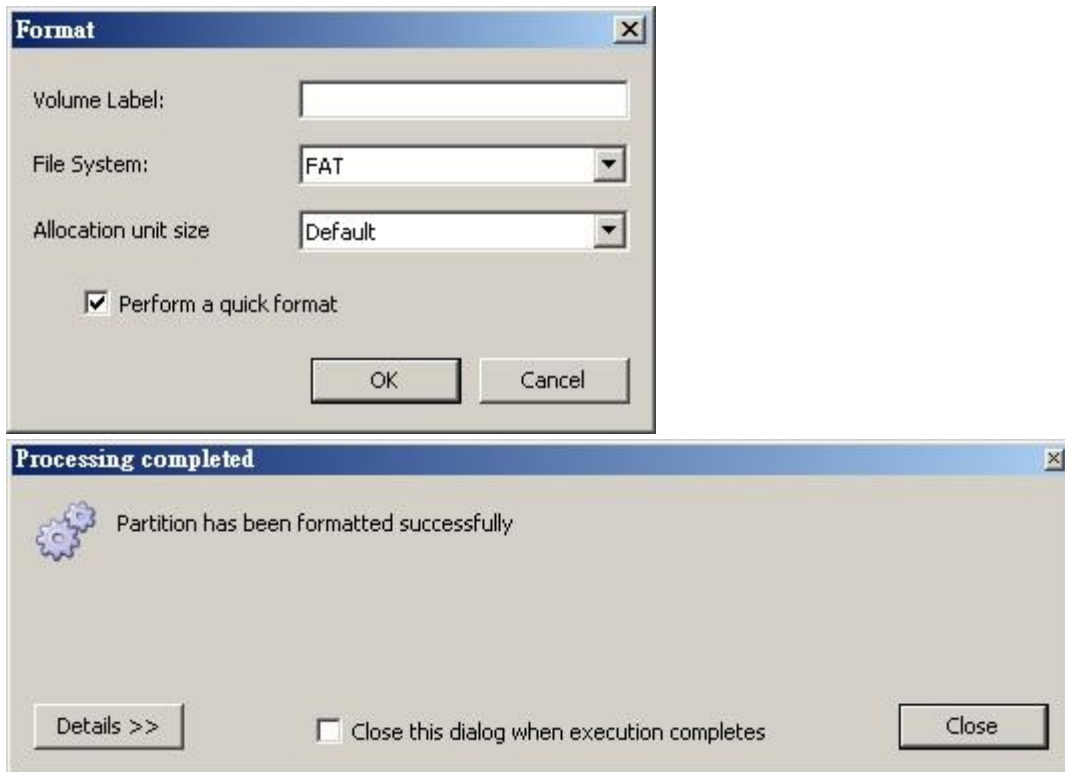

Figure 12
- Right click again and choose format, Click OK, finished (see figure 12)